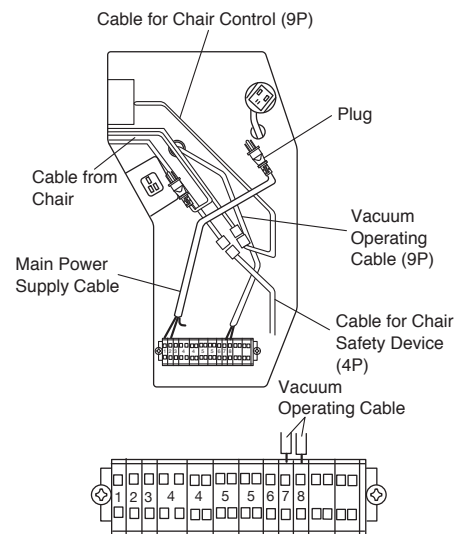

Fig.2-16 Connect Electrical cable (1)
See Fig.2-16 or 2-17.
- 10) Connect Vacuum Operating Cable to the Electric Terminal as shown in Fig.2-16 or 2- 17.